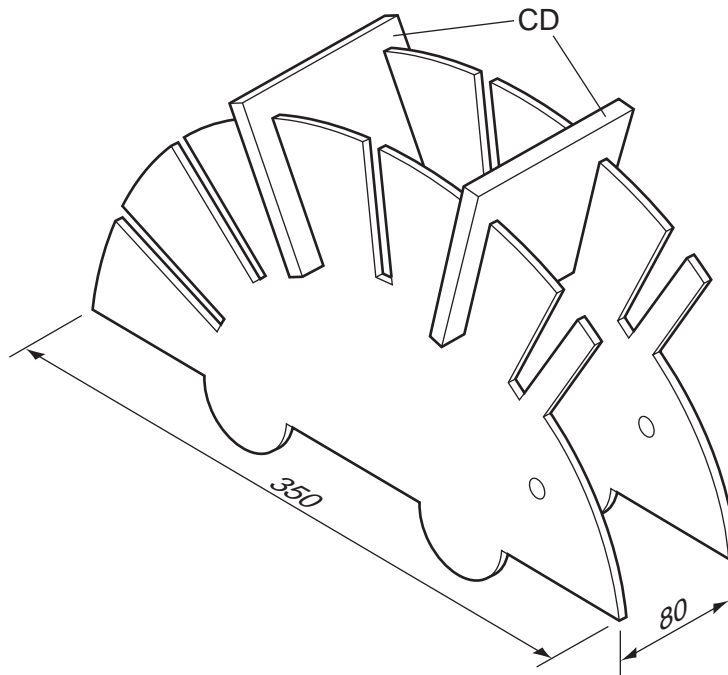

Fig. 9
- 13 Fig. 9 shows a novelty CD rack based on the shape of a hedgehog. The rack is supplied as flat pack for self-assembly.